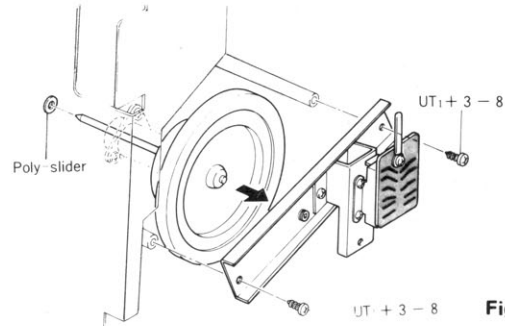

Fig. 38
- 3) Remove 2 screws of the flywheel bearing plate. (Refer to Fig. 38)
- 4) Remove poly-slider washer of the flywheel shaft, and then pull out the flywheel. (Refer to Fig. 38)